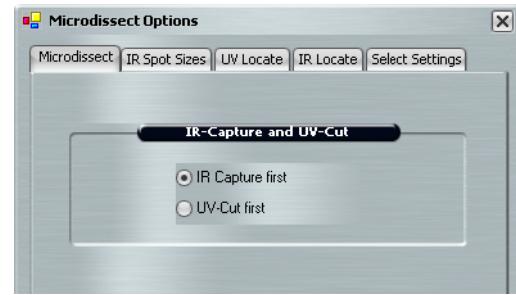

Figure 54 Microdissect tab
2. Click **IR Capture first** or **UV-Cut first** to set the order (see Figure 54).